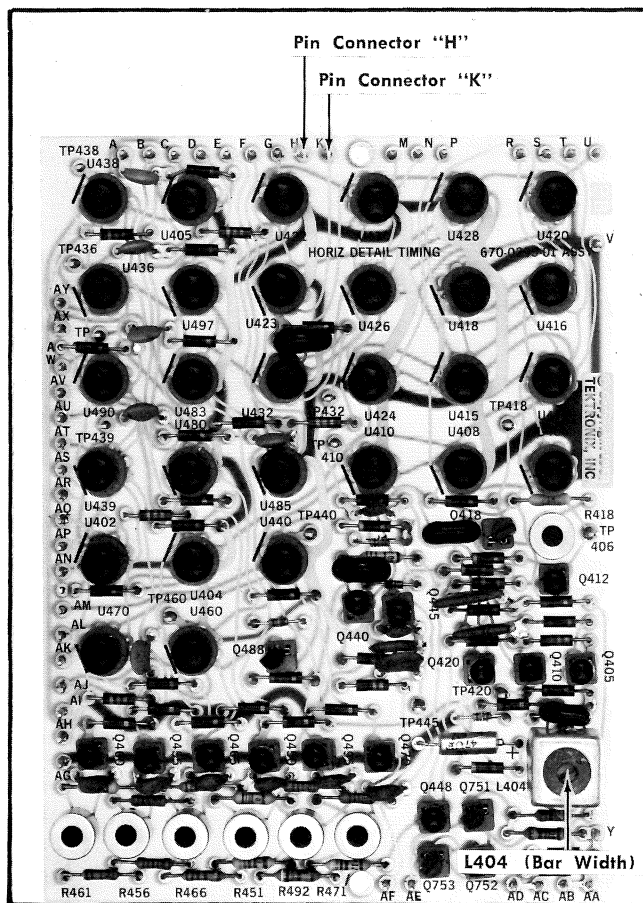

Fig. 5-12. Horiz Detail Timing board adjustment and pin connector locations.
a. Disconnect pin connector "K" on the Type R141A Horiz timing board and reconnect it to pin "H" (see Fig. 5-12).